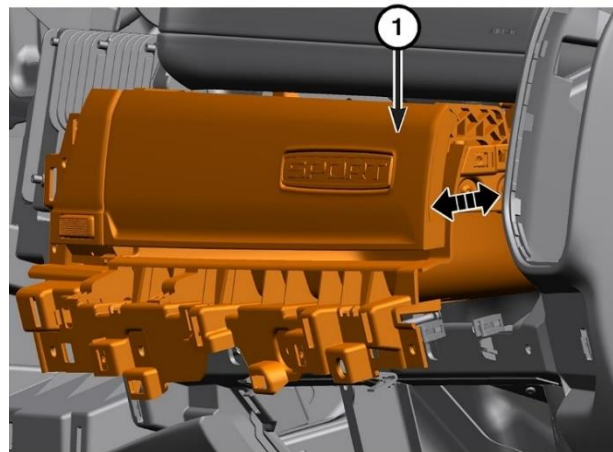

Figure 15 – Upper Glove Box
23. Remove the upper glove box (1) from the vehicle (Figure 15).
38. Position the upper glove box (1) near to the mounting location in the vehicle (Figure 15).